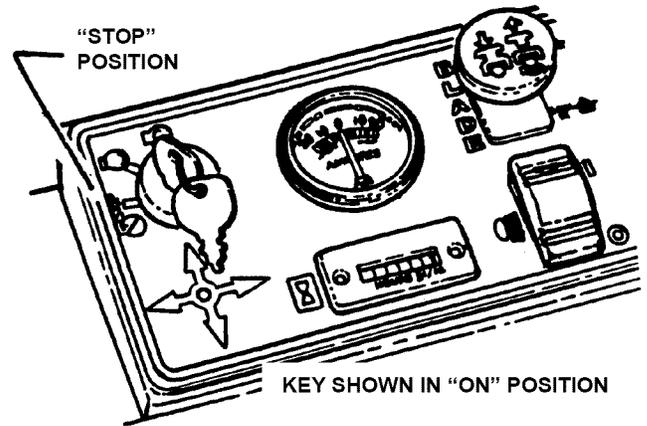

FIGURE 2.5
6. Turn key to the start position until engine starts. See Figure 2.5.